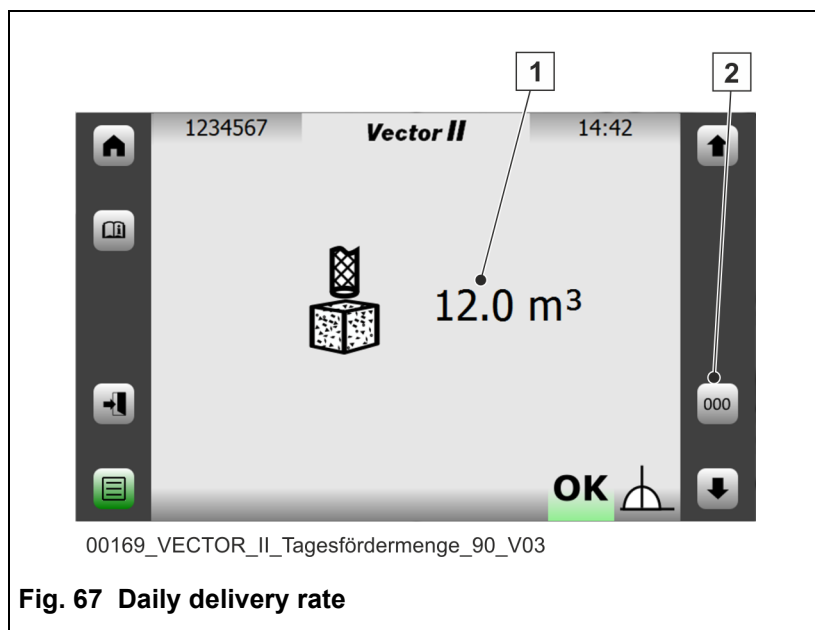

Fig. 67 Daily delivery rate
Actuate the associated button (2) (**Fig. 67**) to set the daily delivery rate to zero.